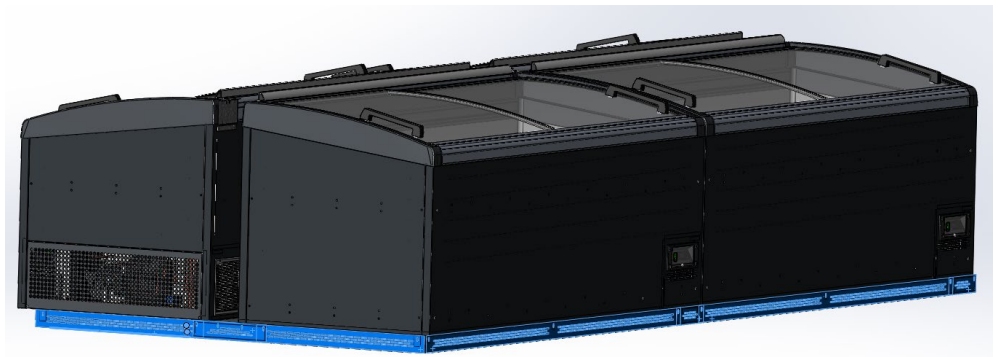

Fig. 4.2.3. Installation of security guards.
3. The panels of the pilasters are installed: the front, the end and the connector of the pilasters to the brackets on the legs of the bonnet (Fig. 4.2.3).